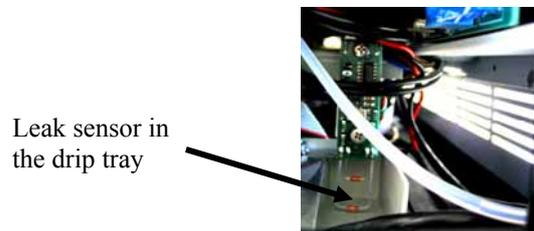

Fig. 42: Leak sensor
3. Dispose of any liquid in the tray and dry the sensor (→ Fig. 42), using lint-free cloth or paper.